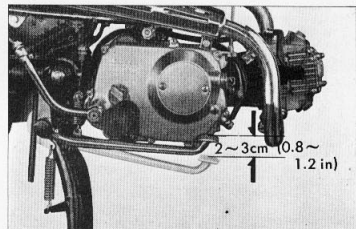

Figure 6-36. Free play of brake pedal
- a. The free play of the brake pedal, that is the distance between the normal attitude and the point where the brake starts to take hold should be 2~3cm. (0.78~1.12 in). (Fig. 6-36)